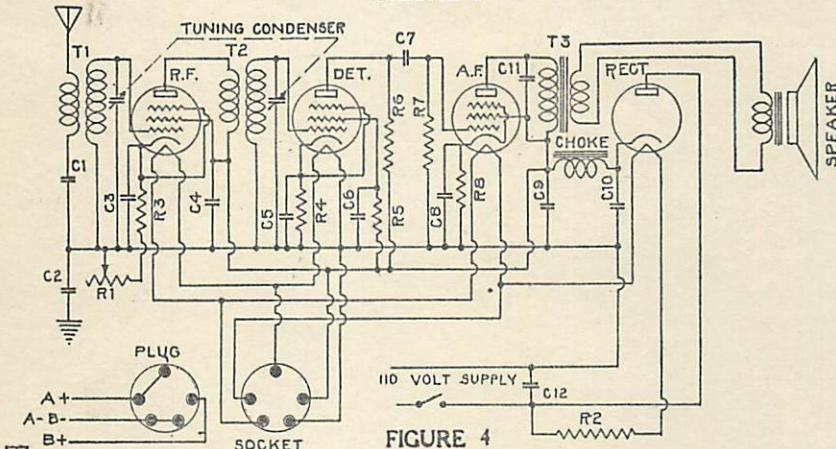
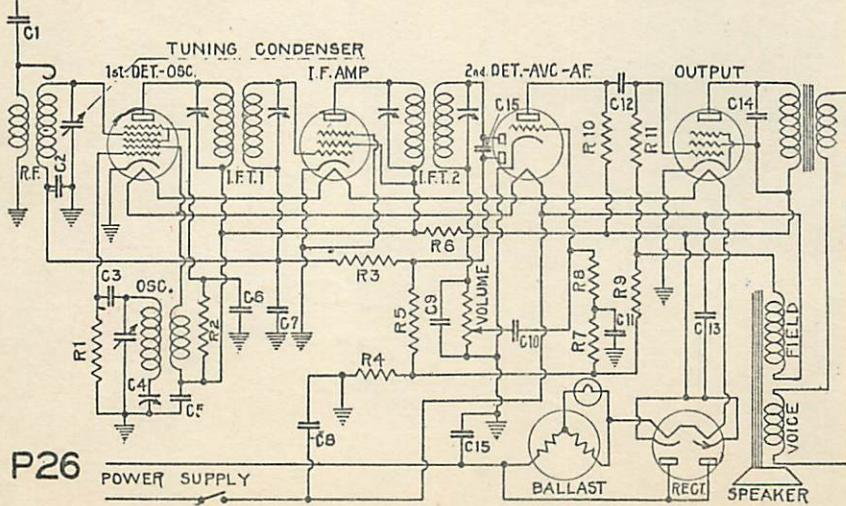

FIGURE 4
FIGURE 5
With these facts in mind, we want you to look at the circuit of Figure 4 which is a four tube Universal type Radio Receiver
Resistances used for the purpose of R_2 , Figure 4, are often enclosed in a glass or metal bulb, mounted on a base the same as the regular tubes and are known as a "Ballast" or "Ballast Tube".
Starting at the lower wire of the "110 Volt Supply" of Figure 4, you will find a direct path to the plate of the rectifier tube. When the plate is positive, in respect to the cathode, current will pass through the tube, from plate to cathode which is therefore often considered as the supply positive.
To show you how circuits of this general type have been adapted for battery operation, in Figure 4 we have added a 5 prong socket which connects to the batteries through a plug. To provide proper operation, the a-f tube must now have a 6.3 volt and .3 amp. filament, the same as the r-f and detector tubes.
As you perhaps already know, the Electrical Code requires that lighting circuits be grounded on one side so that the voltage between the line and ground can never exceed the circuit voltage. In Figure 4, one side of the 110 volt supply connects directly to the chassis, or common return, and we will assume the plug has been inserted in the outlet so that this is the ungrounded or "hot" side of the supply circuit.
To give you a further application of the a-c/d-c type of unit, for Figure 5 we show a 6 tube superheterodyne receiver which includes several features not included in the simpler TRF type receiver of Figure 4.
The second detector is of the diode type and its circuit is from the upper end of the secondary of i-f T_2 to the upper diode of Figure 5, across to the cathode and back through the volume control to the lower end of the secondary. The rectified signal voltage thus appears across the volume control potentiometer and is coupled to the grid of the a-f tube through condenser C_{10} . By adjusting the movable contact of this control, any desired part of the signal voltage may be applied to the a-f grid, thus regulating the volume.
9. How are the heaters of Figure 4 connected when using a battery supply?
The heaters are connected in parallel when a battery supply is used for Figure 4.